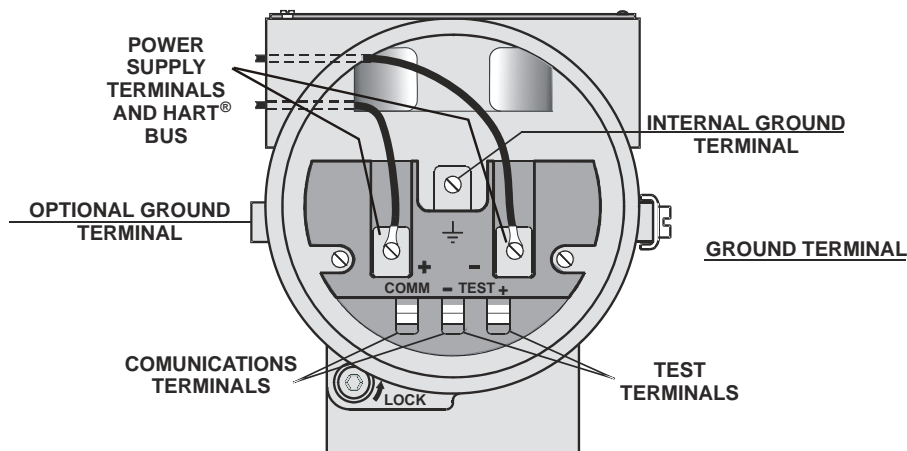

Figure 1.5 – Terminal Block
**Test** and **Communication terminals** allow, respectively, to measure the current in the 4 - 20 mA loop, without opening the circuit, and also to communicate with the transmitter. The "Test Terminals" must be used to measure the current. The "COMM" terminal must be used for HART communication. The terminal block has screws where fork or ring-type terminals can be fastened. See Figure 1.5.